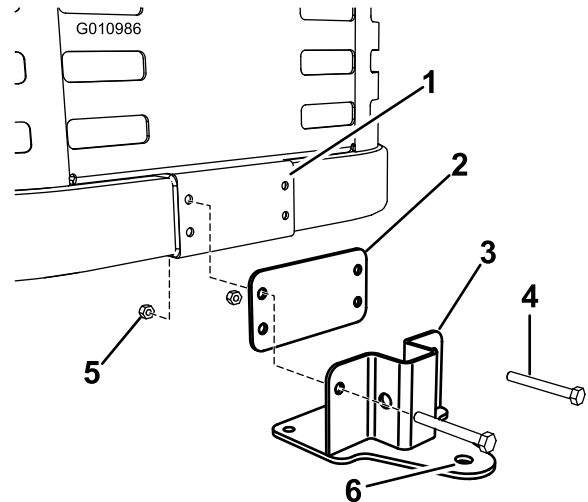

Figure 3
1. Locate the bagger frame support spacer plate and bracket in loose parts. Install the plate and bracket to the machine frame as shown in Figure 3. Secure the plate and bracket to the frame using two bolts (5/16 x 2-1/2 inch) and two lock nuts (5/16 inch).